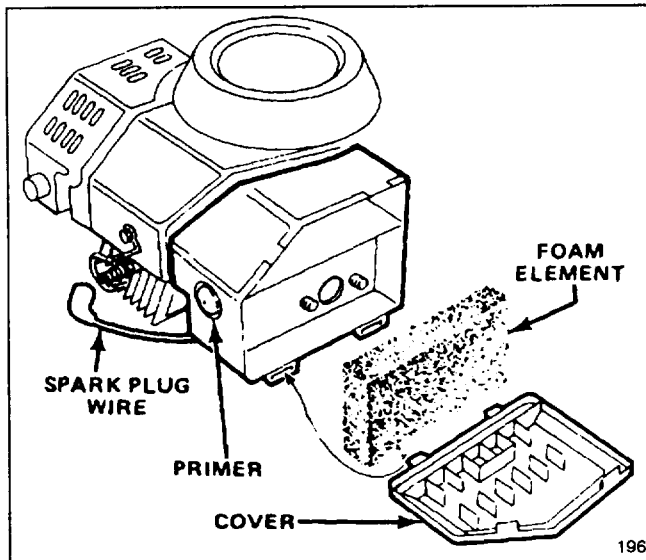

Figure 15
1. Stop engine and pull wire off spark plug (Fig. 15).